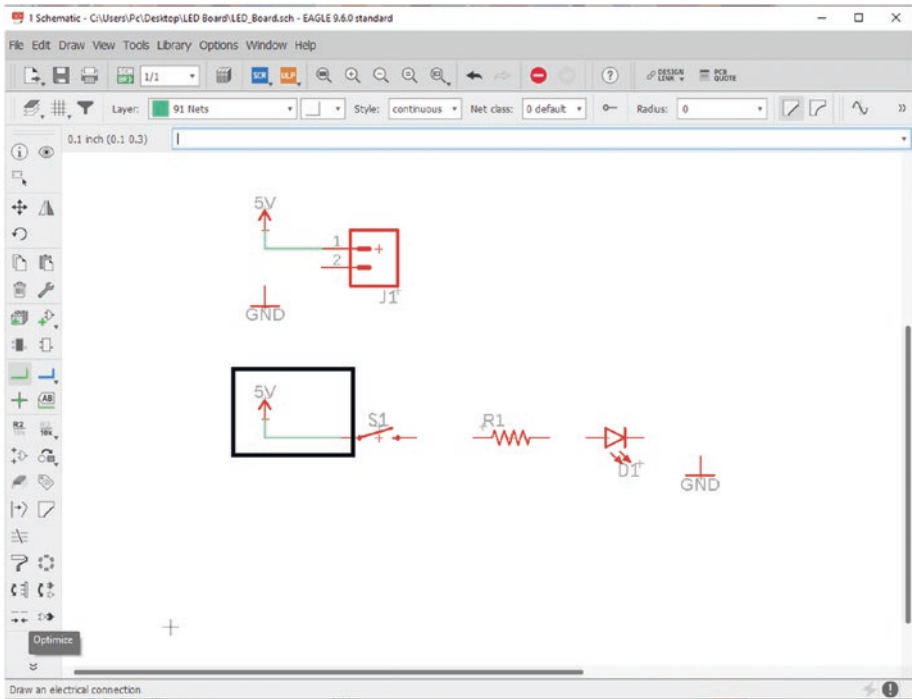

Figure 5-44. Connect 5V to the right side of S1
32. Connect 5V to the right side of the switch symbol. See Figure 5-44.